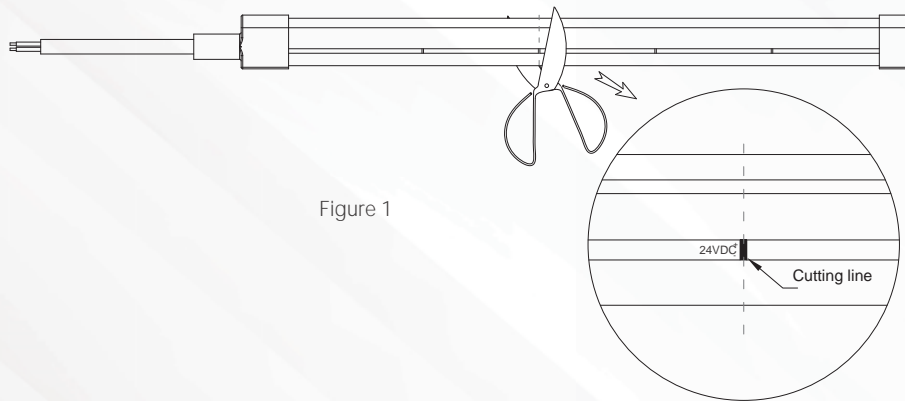

Figure 1
1. Cut along the cutting line with scissors, as shown in Figure 1.